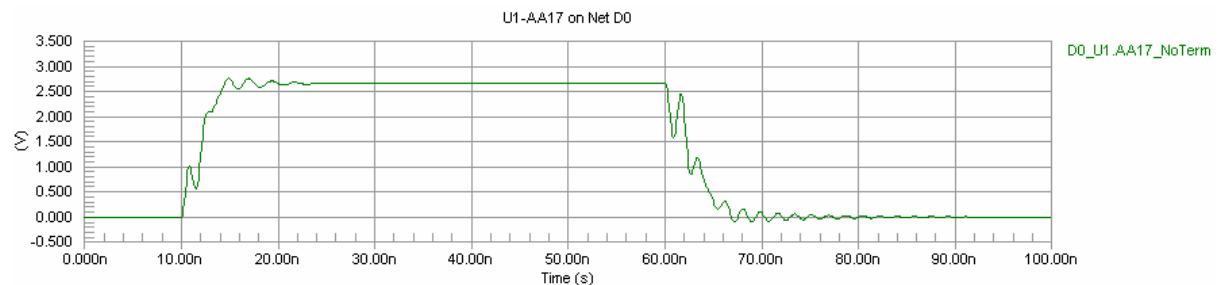

Figure 7. Waveform for D0 at the FPGA pin, with Slew = FAST and Drive = 4mA.
9. Ensure that the FPGA pin is still set to be the output pin on the net (Bi/Out). Then run a reflection analysis on D0 again and note that there is now some ringing on this signal (Figure 7).